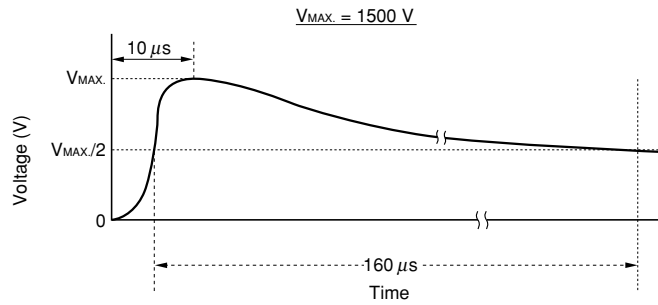

Figure 3.10 Surge Voltage Waveform
The EB2 series relay can withstand even if the surge voltage shown in Figure 3.10 is applied (1) between open contacts, (2) between coil and contact, or (3) between adjacent contacts.
If a lightning surge is applied between the closed contacts, a current whose value is determined by the impedance of the route connected to the contacts may flow. This current may be referred to as a "surge current", and Figure 3.10 and Table 3.3 show the resistance of the EB2 series relay to the surge current. Figure 3.10 shows the waveform of the applied surge current. Table 3.3 shows the values of the current the relay can withstand. The relay is damaged by burning and malfunctions when a current higher than 220 A is applied to it.